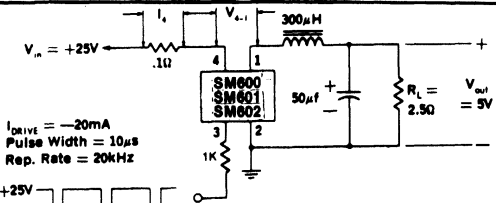

Figure 1. SM600, 601, 602 Switching Speed Circuit
- The efficiency is a measure of internal power losses and is equal to Output Power divided by Input Power. The switching speed circuit of Figure 1, in which the efficiency is measured, is representative of typical operating conditions for the SM600 series switching regulators.